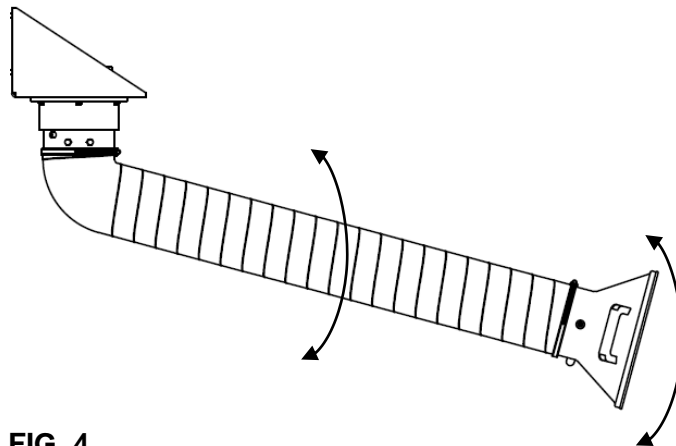

FIG. 4
1. Upon completion of installation, the SCA should appear similar to the system shown in FIG. 4.